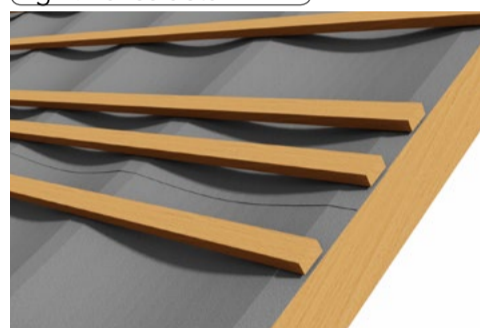

fig 5: Restraining batten
6. An additional batten should be installed where the horizontal underlay overlap does not coincide with the tile or slate batten centres. The additional batten is required to restrain the overlap and avoid contact between the underlay and tiles. Alternatively, the underlay overlap can be increased to coincide with the batten positions. The batten should be installed not more than 75mm from the bottom edge of the upper layer of the underlay (fig. 5).